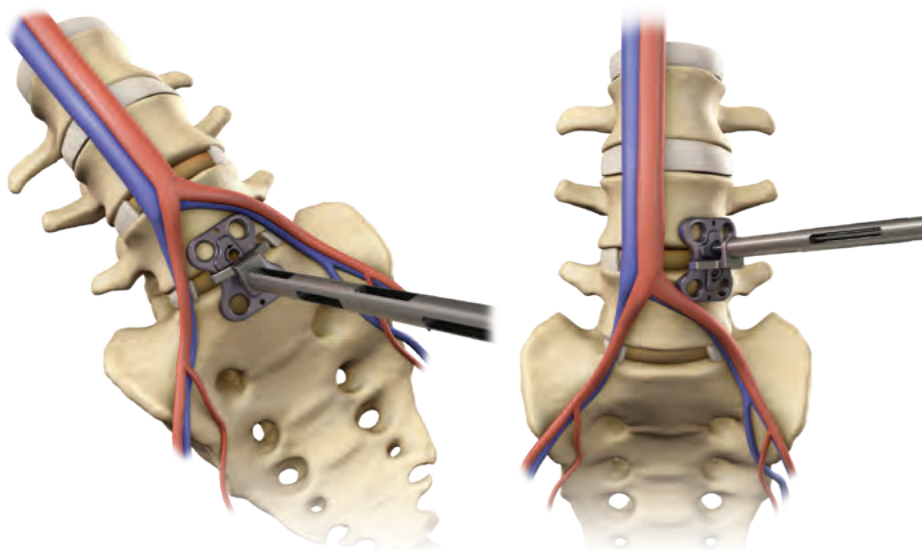

Figure 10:
- Once the appropriate plate has been selected and attached to the plate holder, position the plate so the screw holes are as close to the vertebral body endplates as possible without interfering with the interbody device (Figure 10).